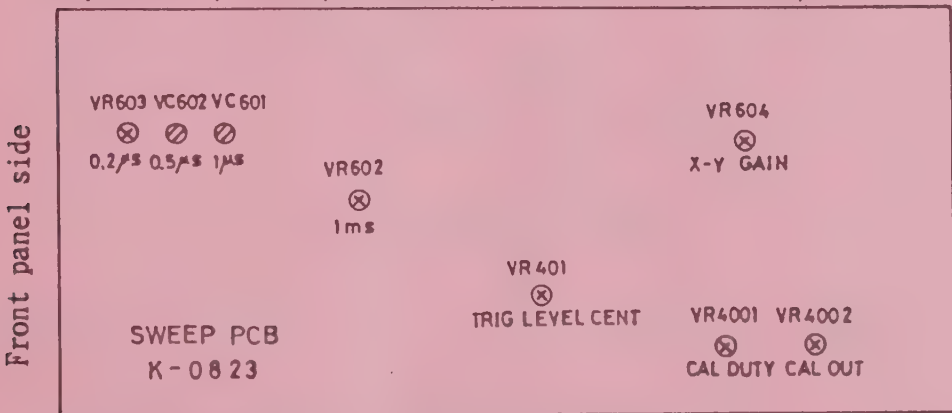

Fig. 7. Horizontal and Timing Axis Adjustments
HORIZONTAL AND TIMING AXIS ADJUSTMENTS (See Figs. 7 and 8)
4. X-Y GAIN Adjustments (See Fig. 7)
Refer to Fig. 7.